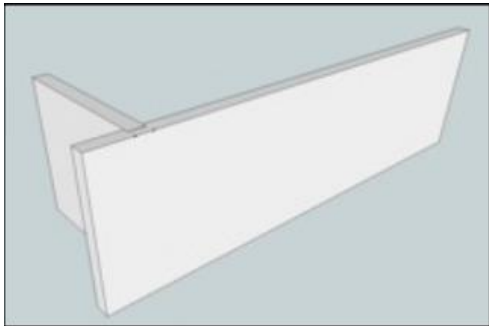
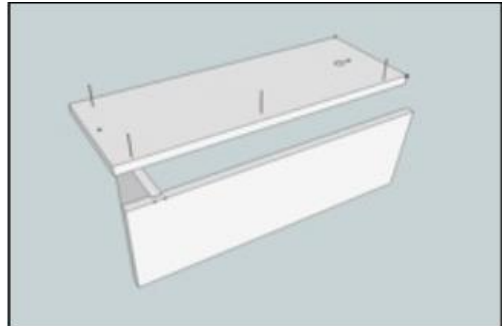

Figure 2: Support Fixed Side Panel with Base Panel, into the
Figure 3: Attach the Rear Panel to the Fixed Side Panel.
- Place the "Side Panel" (SP) on its short edge.
- Slip the "Base" (BA) into the rebated/grooved end of the SP for stability. (Fig 2)
- Place the "Back Panel" (BP) on the SP aligning their top angled edges.
- Nail the RP to the SP using 3 nails along its length - top, middle and base. (Fig 3)